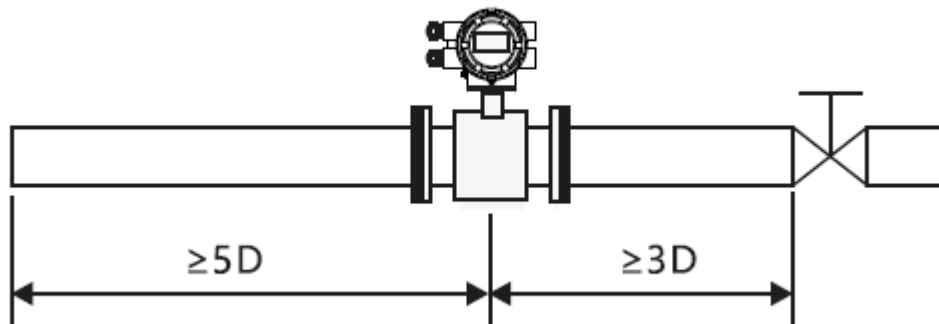

Figure 8
- To ensure measurement accuracy of the flow meter, it is recommended that the length of the straight pipe section upstream of the sensor should be at least 5 times the pipe diameter (5D) and the length of the straight pipe section downstream should be at least 3 times the pipe diameter (3D). (See Figures 8 and 9.)